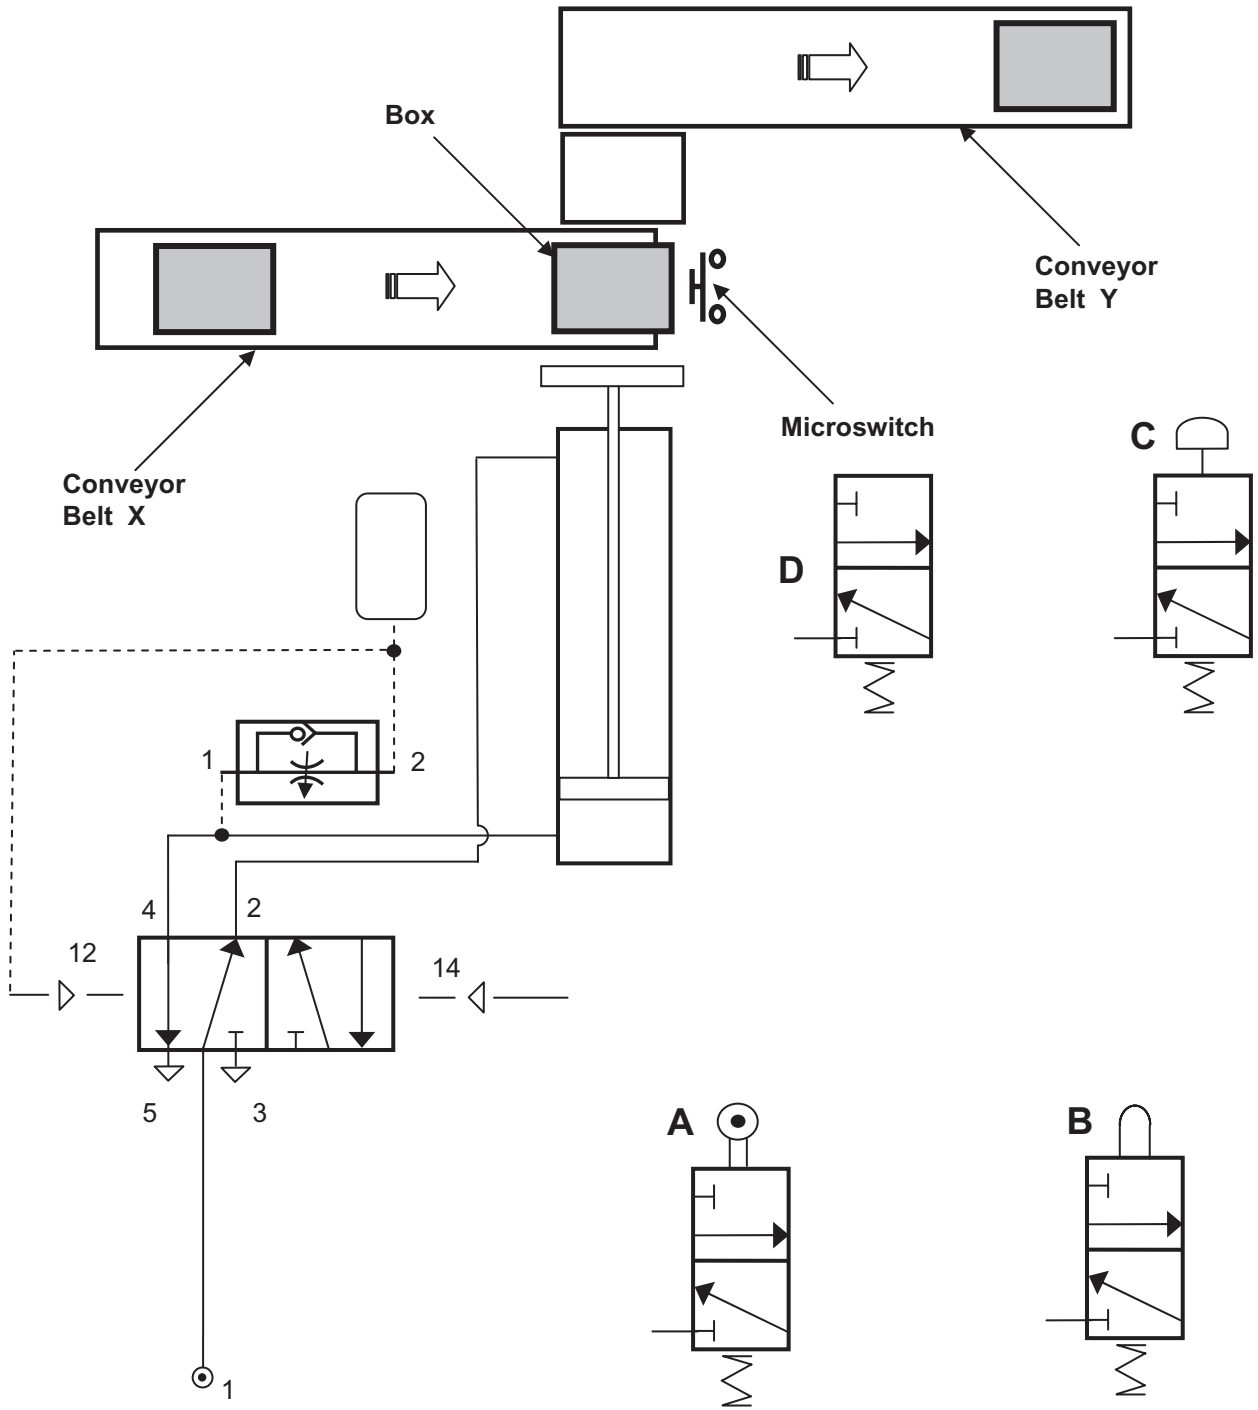

Fig. 12
- (b) Fig. 12** shows an incomplete pneumatic system which is to be used to move boxes from **Conveyor belt X** to **Conveyor belt Y**.
- (vi)** Describe how the double acting cylinder shown on **Fig. 12** instrokes automatically following an outstroke. Your explanation should include reference to the names of the components used and the flow of air. [3]